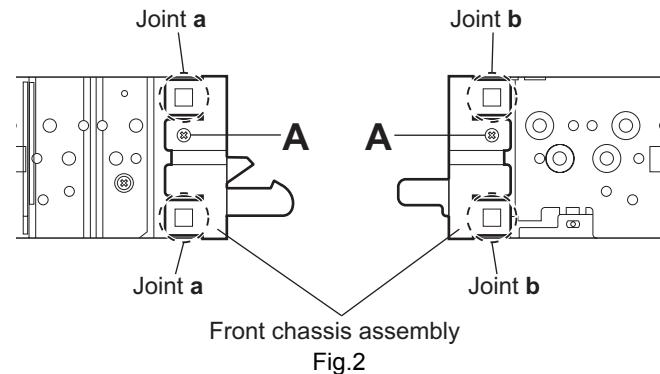

Fig.2
2.1.2 Removing the front chassis assembly (See Figs.2 to 4)
- (1) Remove the two screws **A** on the both sides of the main body. (See Fig.2.)
- (3) Release the two joints **a** and two joints **b** on the both sides of the main body. (See Fig.2.)